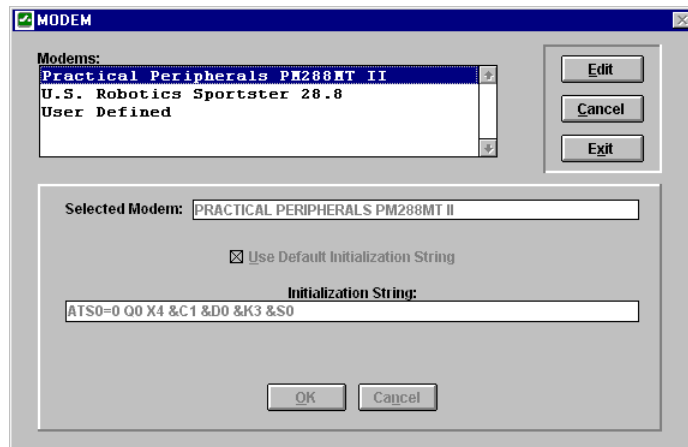

Figure 7 Modem Window
2. Click the **Select Modem** button to display the MODEM window (Figure 7 on page 23). Select the type of remote modem and click the OK button to close the MODEM window.
Open the **System** menu, select **Modem** and then **Configure Remote** to display the MODEM window (Figure 7).
3. The MODEM window (see Figure 7 on page 23) will now be displayed. Select the remote modem from the list shown and click the **Exit** button. The appropriate initialization string will now be sent to the remote modem where it will be stored in nonvolatile memory.